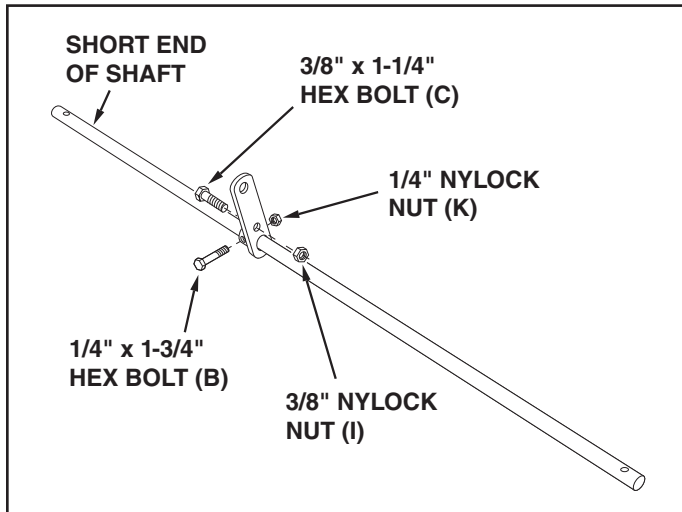
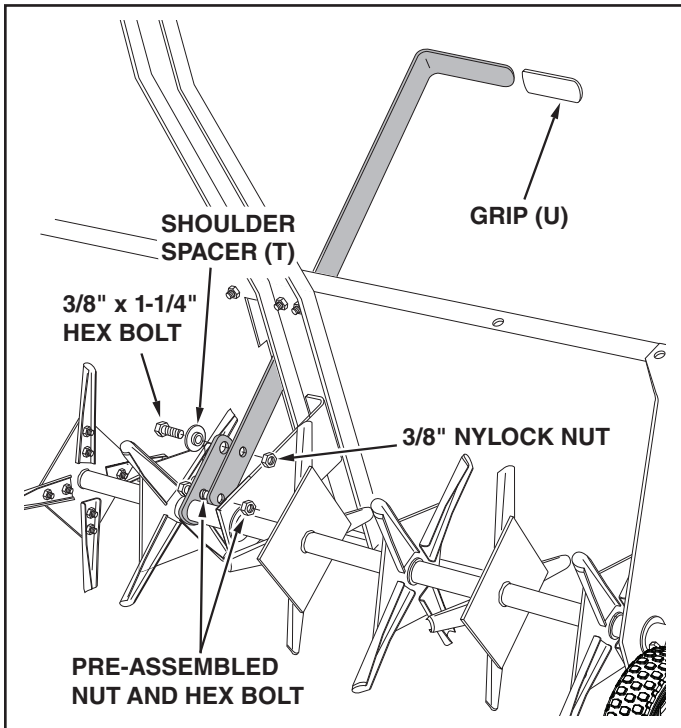

FIGURE 1
FIGURE 11
1. Assemble a wheel bracket to the middle hole in the shaft so that the hub of the bracket faces the short end of the shaft. Fasten the bracket to the shaft using a 1/4" x 1-3/4" (B) hex bolt and a 1/4" nylock nut (K). **Tighten.** See figure 1.
2. Pre-assemble a 3/8" x 1-1/4" hex bolt (C) and a 3/8" nylock nut (I) to the smaller hole in the wheel bracket. Insert the bolt from the hub side of the bracket. **Do not tighten till step 15.** See figure 1.
15. Place the lift handle through the slot in the tray. Fasten the lift handle to the smaller, inner hole in the middle wheel bracket using the bolt and nut which you pre-assembled earlier (figure 1). Fasten the lift handle to the larger, outer hole in the wheel bracket using a 3/8" x 1-1/4" hex bolt (C), the shoulder spacer (T), and a 3/8" nylock nut (I). **Tighten both nylock nuts.** See figure 11.
16. Push the grip (U) onto the lift handle. See figure 11.